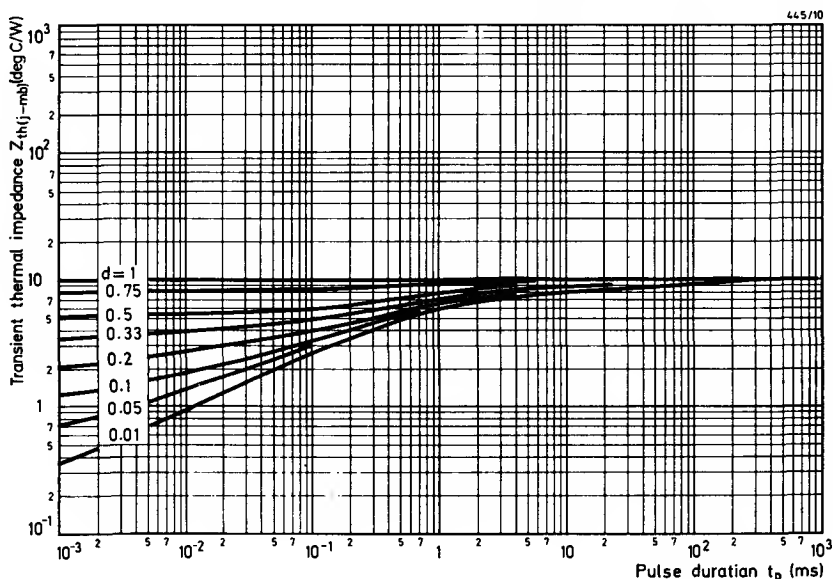
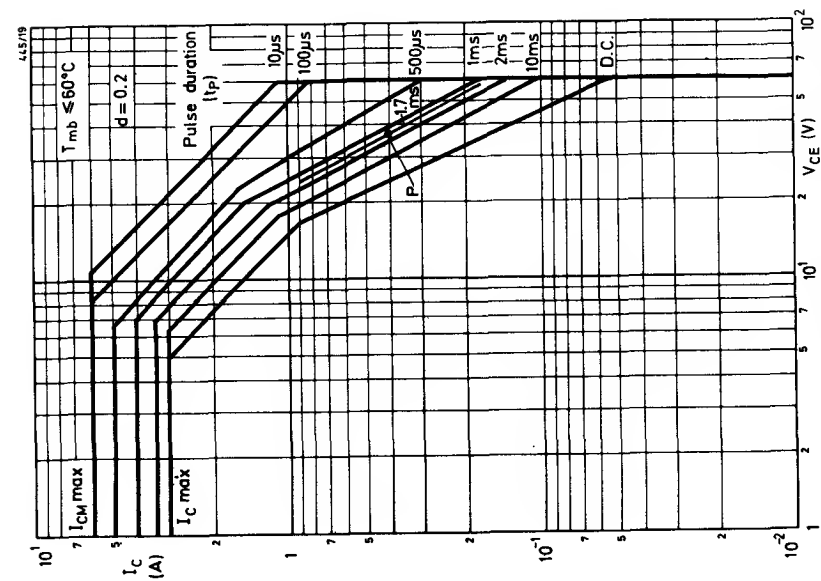

Fig. 2—Typical thermal impedance curves at various duty cycles
Fig. 4 —Typical SOAR family for $d = 0.2$ (20% duty cycle)
which is low at high collector-emitter voltages and higher at low voltages. Three loci for critical current values are shown on the diagram; these represent d.c., pulse, and short pulse operation. The extension of the second-breakdown locus for pulse operation is dependent on the pulse duration t_p and also, to a lesser extent, on the duty cycle d (see Figs. 2 and 3). Thus the greatest extension is permissible with single-shot pulses ($d \approx 0.01$) of short duration, say $10\mu s$. (The value $d = 0.01$ can be considered as single-shot because there is ample time for cooling between power pulses).
In general, the data provides SOAR curves for pulse durations in multiples of 1, 2, 5, and 10, starting at pulse durations in the region 10 to 50 μ s. The families of curves are plotted at duty cycles of 0.01 (single-shot) 0.1, 0.2, 0.5, and 1.0 (d.c.). The transient thermal impedance curves are also included so that the operating mounting-base temperature can be calculated. Typical SOAR data curves for duty cycles of 0.2, 0.5 are illustrated in Figs. 4 and 5.
The procedure for constructing a SOAR for one specific set of conditions is described with reference to the curves shown in Figs. 4 and 5, and to the transient thermal impedance curves in Fig. 2.
Where $Z_{th(td)}$ is the thermal impedance for pulse duration t at duty cycle d , and $Z_{th(to)}$ is the thermal impedance for pulse duration t at duty cycle $d = 0.01$ (from Fig. 2).
Suppose the application had required an I_{CM} of 400mA instead of 300mA. In this case the point P on Fig. 4 would be given. Point P is outside the 2ms area which indicates that the condition may be unacceptable. Thus a closer approximation to the true conditions is necessary.
- 2) If point P is outside the 1.7ms area, then determine the 1.7ms area on the family of curves for $d = 0.2$ (Fig. 4). A further linear interpolation between the two 1.7ms areas is then needed to approximate to the 1.7ms SOAR at duty cycle of 0.37.